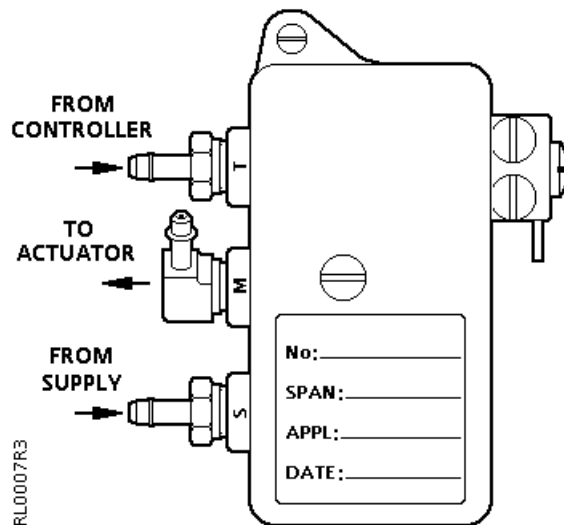

Figure 3. Positioning Relay Ports.
9. Make pneumatic piping connections to the actuator and relay. The "S" Port is the air supply port. The "M" Port goes to the connector on the actuator. The "T" port is the signal from the controller. See *Figure 3*.
10. Place the calibration label on the cover as shown in *Figure 3*. Mark for reference (Optional). Attach the relay cover if you are not calibrating immediately.